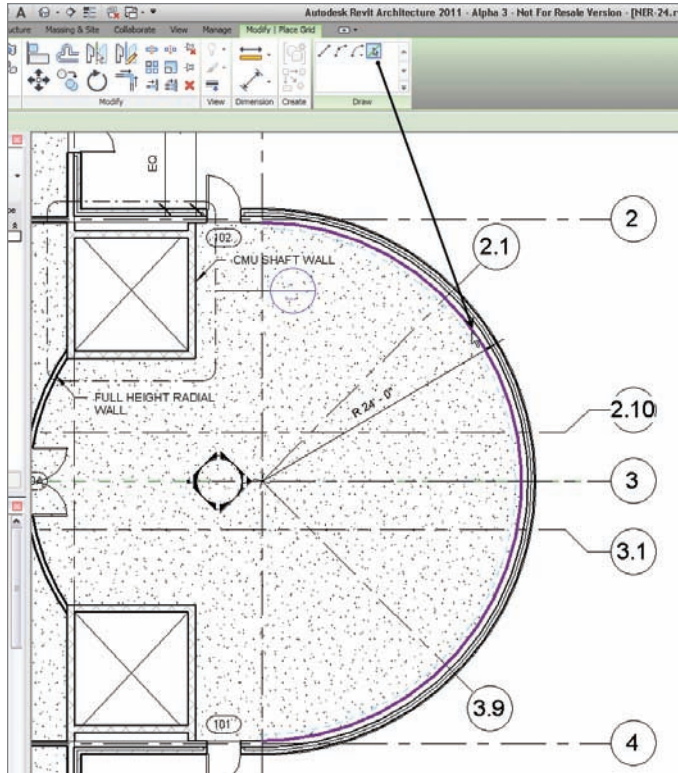

FIGURE 8.19 Adding a grid line offset from the finish inside face
3. On the Draw panel, select the Line button, as shown in Figure 8.19.
5. Pick the finished inside face of the radial wall, as shown in Figure 8.19.